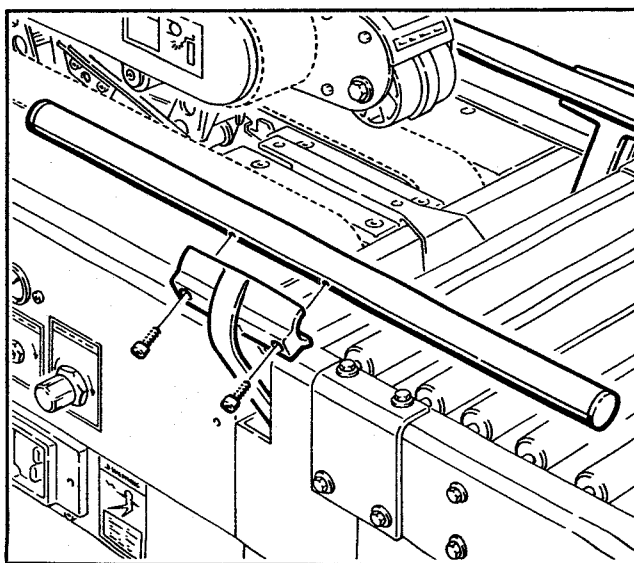

Figure 2-6 - Centering Guides
2. Using a 5 mm hex key wrench, attach the centering guides to the rails with the four M6 x 20 screws (two in each guide) as shown in figure 2-6.